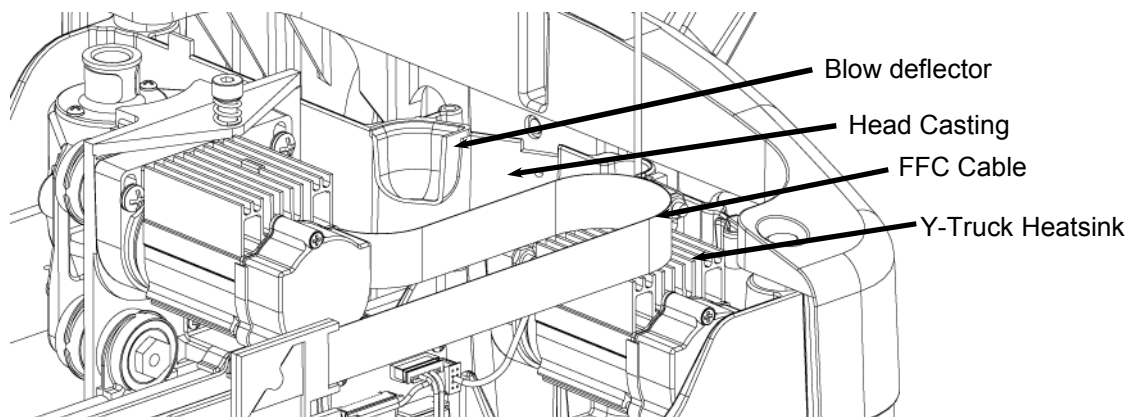

FIGURE 20: PLACEMENT OF THE BLOW DEFLECTOR - ISO
- a. Move the Y-truck all the way to the left side of the machine and make sure that the FFC cable does not drag on the Y-truck heatsink (See Figure 20). If the FFC cable is dragging bend it upwards so that it consistently clears the heatsink.